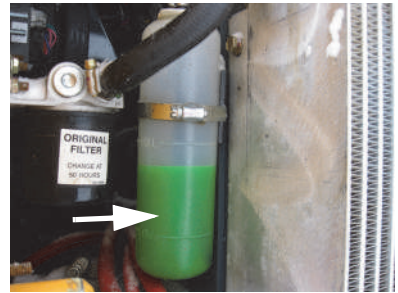

Figure 48 Coolant Recovery Tank
1. With the engine at operating temperature, open the engine cover. Looking at its plastic coolant recovery tank, check that the coolant tank fluid is half way up on the recovery tank, between full and low markings on the coolant tank (Figure 48).